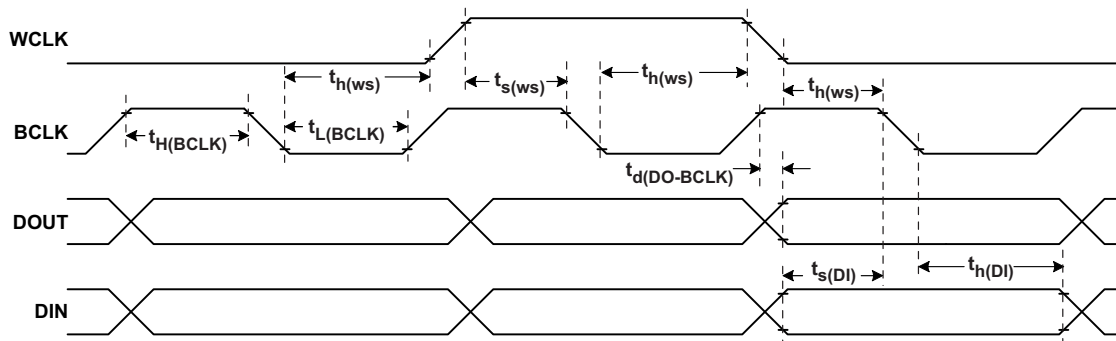

Figure 4. DSP Timing in Slave Mode
8.15 DSP Timing in Slave Mode (see Figure 4)